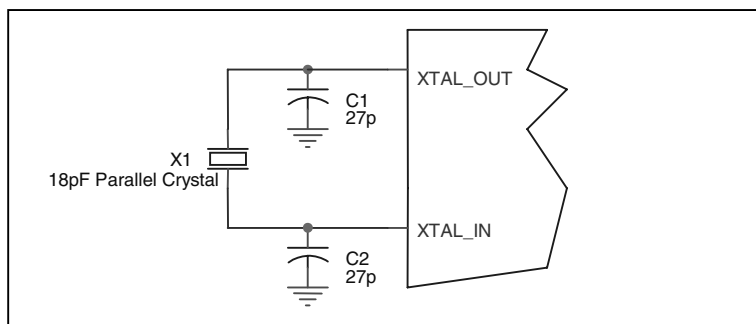

Figure 2. CRYSTAL INPUT INTERFACE
*Figure 2* below were determined using a 25MHz parallel resonant crystal and were chosen to minimize the ppm error.